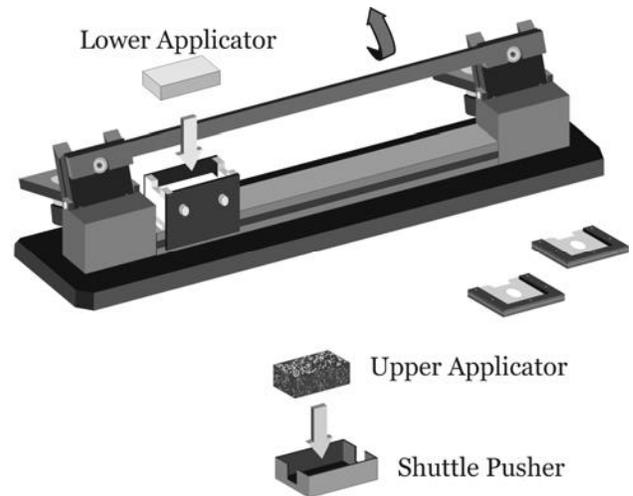

Figure 4. Preparation
5.04.5 As shown in **Figure 4**, insert the lower (harder) applicator in the shuttle and slide the shuttle to the cable end of the unit and insert the upper applicator in the shuttle pusher.